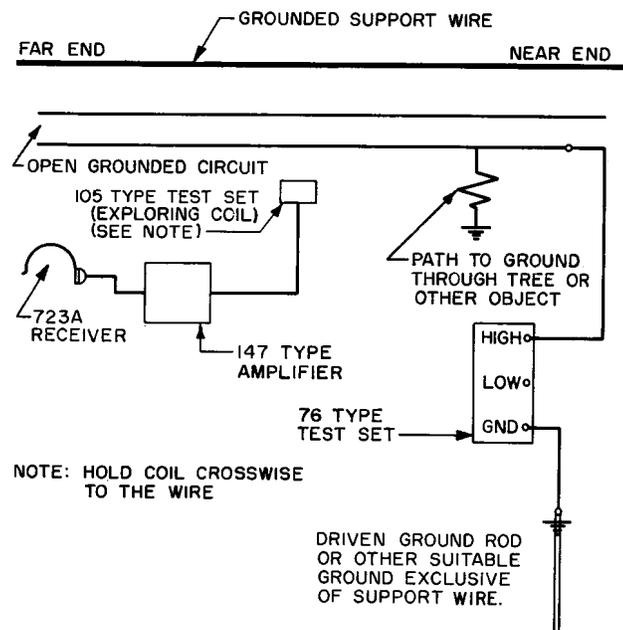

Fig. 5 - Locating Ground Paths
(4) To locate the ground path, in cases when it is not through the support wire, return to the tone source and connect the ground terminal of the 76-type test set to a ground rod driven for this purpose or to some other suitable ground that is not directly connected to the support wire. The exploring coil is again used as shown in Fig. 5 to trace the tone. When the tone level drops, the path to ground has been passed.